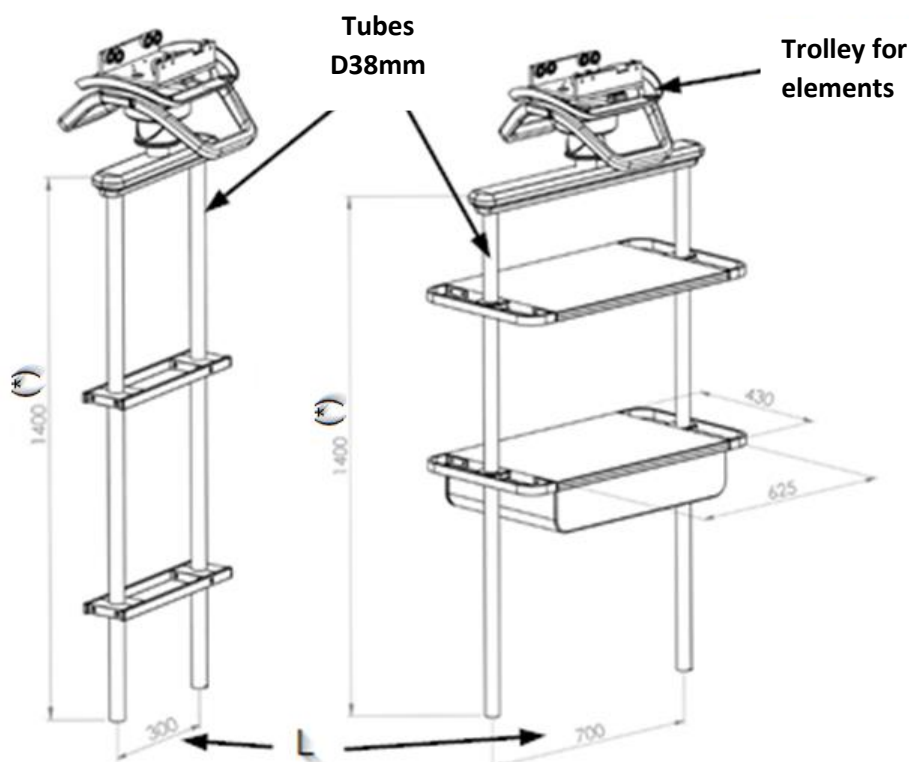

Fig. 6 Trolley detail for ABITUS
Movable element that moves along a defined length within an ABITUS section with two 38mm diameter structural tubes on which other accessory elements can be supported. The distance between the tubes (L) can be 300mm, 500mm and 700mm. Figure 6 shows the 300mm and the 700mm variant.
In the example in figure 6 you can see two sets of technical rails on the structural tubes (picture on the left in figure 6) and two trays, one with individual drawers (picture on the right in figure 6). The standard length of the tubes is 1400mm, for special lengths please contact the manufacturer.
A movable element that moves along a defined length within an ABITUS section and supports service heads and their accessories. These can be attached directly to the carousel (left image in figure 6) or via a 0.6m extension arm (right image in figure 6). The stroke of this carousel is defined by placing